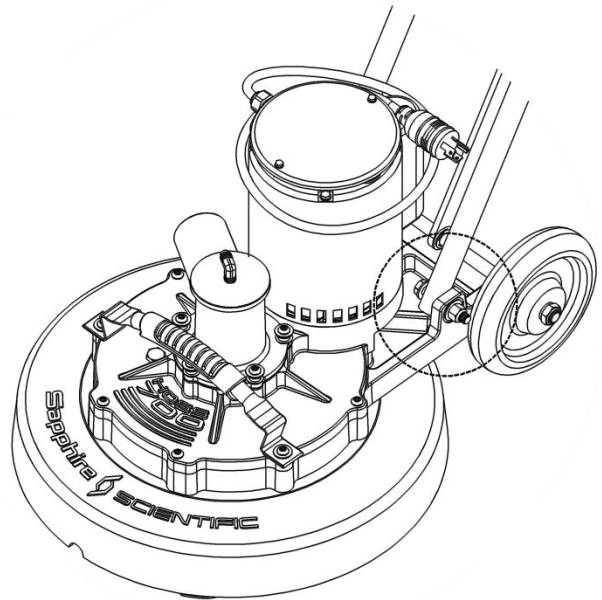

Figure 3.
3. Attach the Handle Assembly to the Gear Box Frame (Figure 3. and Figure 4.)
Attach one side of the handle assembly to the gear box frame using one 3/8-16 x 2-1/4 inch hex head bolt (c), one 3/8 inch stainless steel washer (d), two 3/8 nylon washers (e) and one 3/8-16 stainless steel lock nut (f) as shown (Figure 3.).